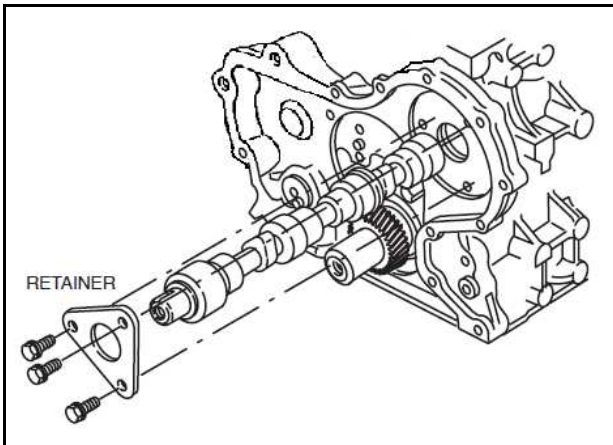

Fig. 11 - Installing Camshaft
3. Lubricate, then install camshaft in cylinder block, Fig. 11. Take care not to damage lobes or cam bearing.